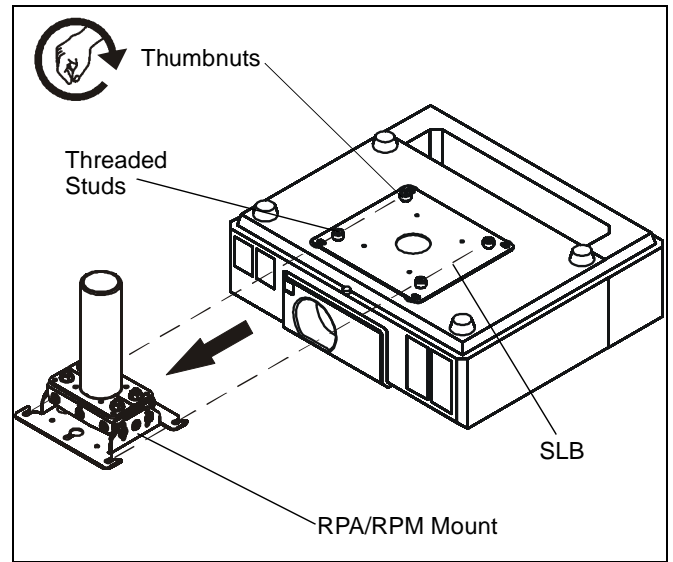

Figure 6
- Ensure the SLB is installed on the projector. (See Figure 6) If the SLB needs to be installed, install it according to the installation instructions provided with the SLB.
- For a pole-mounted RPA, slide the slotted openings on the RPA into the threaded studs on the SLB. (See Figure 6) Fasten the RPA to the SLB with thumbnuts and handtighten.